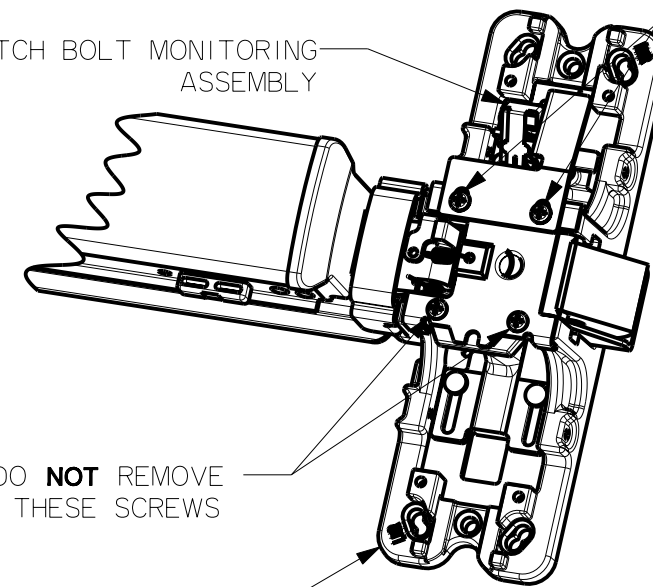
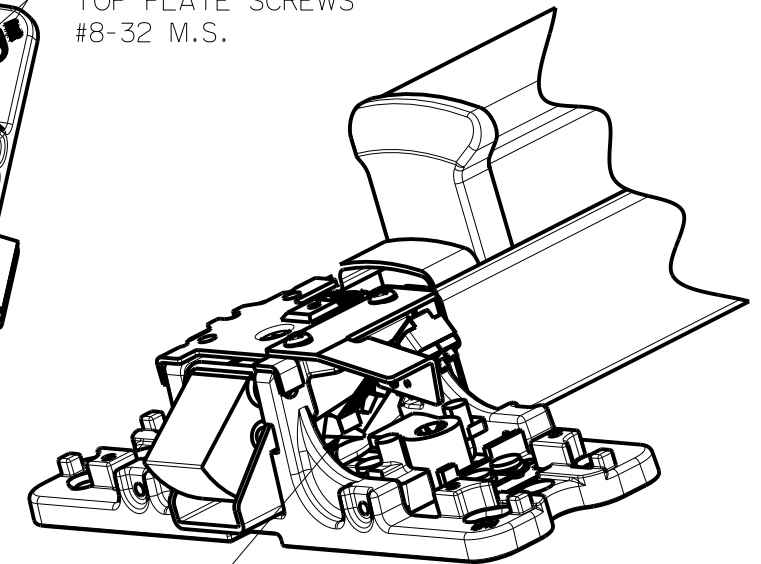

FIG. 4
FIG. 5
- 2 - Remove the 2 Top Plate screws shown and attach the latch bolt monitoring assembly (FIG. 4) Position the switch leaf under the latchbolt as shown (FIG. 5) When the latchbolt is pushed in, a switch closure should appear across the tan and yellow wires